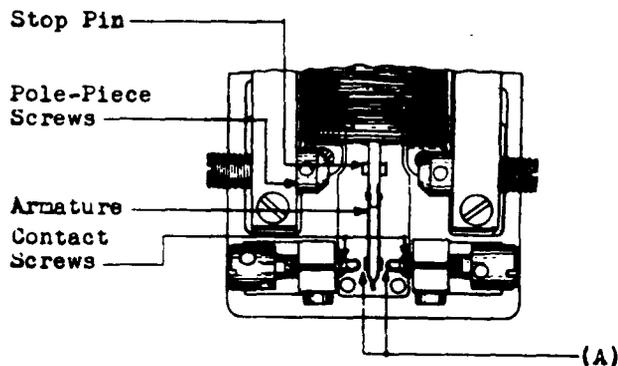

Fig. 6 — Contact Travel
2.09 Contact Travel Fig. 6(A) — The contact travel, that is the distance the armature can travel in passing from a position against one contact screw to a position against the opposite contact screw shall be